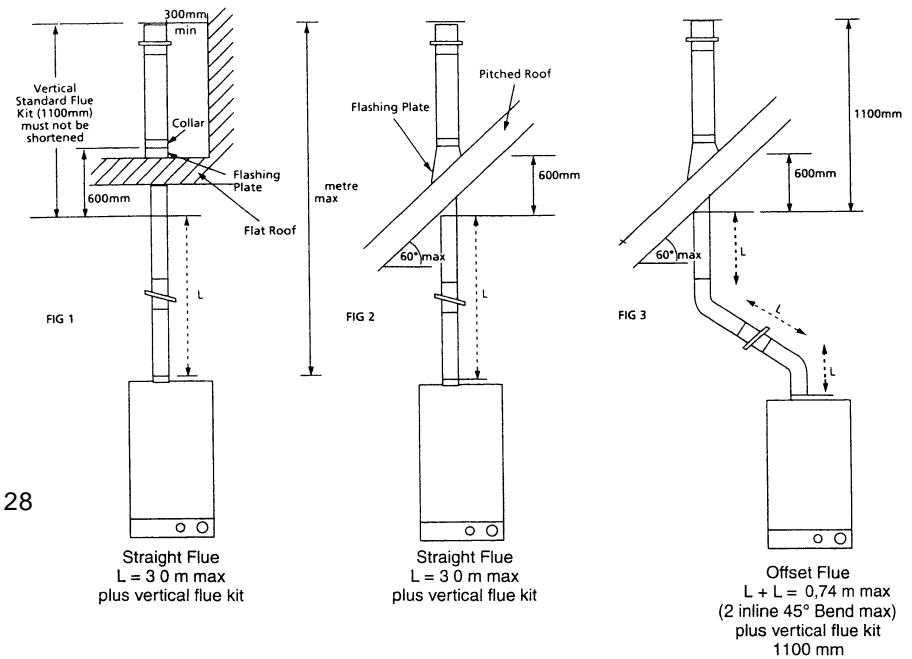
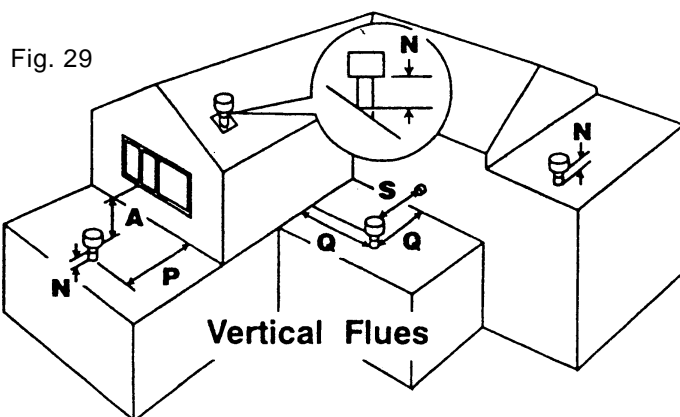

Fig. 28
Fig. 29
- Ensure that the maximum permissible flue length is not exceeded (fig. 29).
Measure the vertical distance between the top of the flue (Fig. 29) and the bottom of the flue terminal assembly (Fig. 28). The measurements should be taken from the outer diameter of the flue.